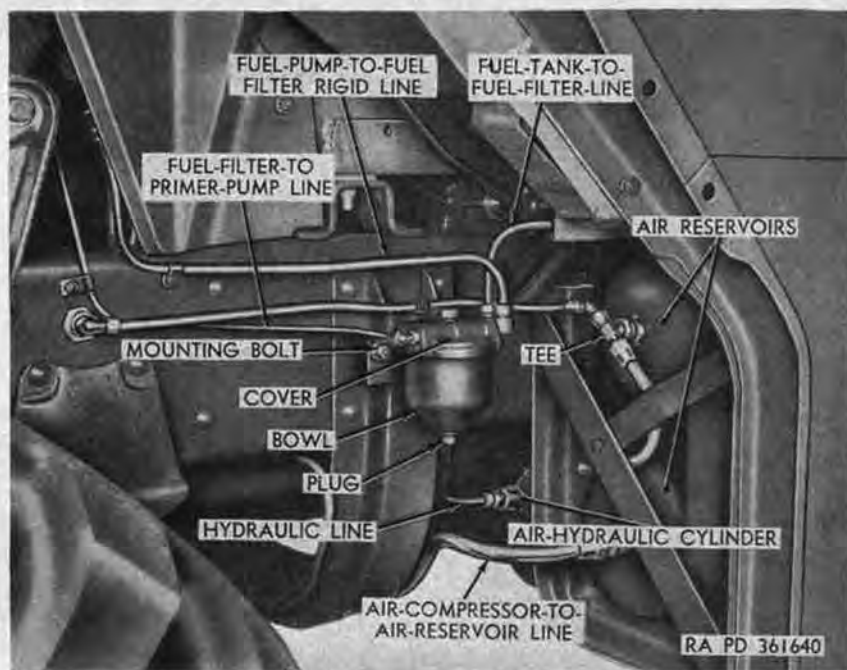

Figure 156.—Fuel filter installed under left front fender.
- (6) *Fuel filter* (fig. 156). The fuel filter, mounted on the outside of the frame right side rail under the left front fender, consists of a removable strainer element encased in a metal bowl.